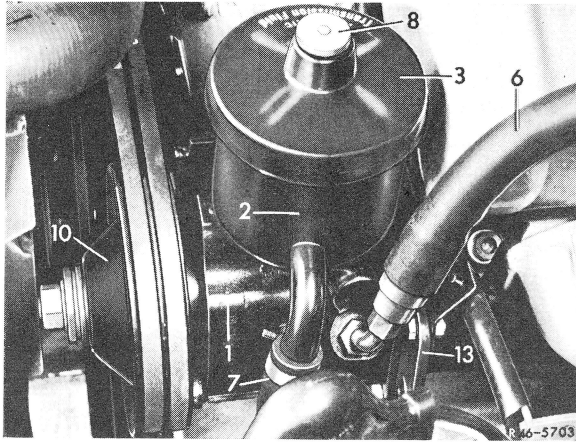

Fig. 1
**1** Drain oil from supply tank (2) of power steering pump with syringe (Fig. 1).